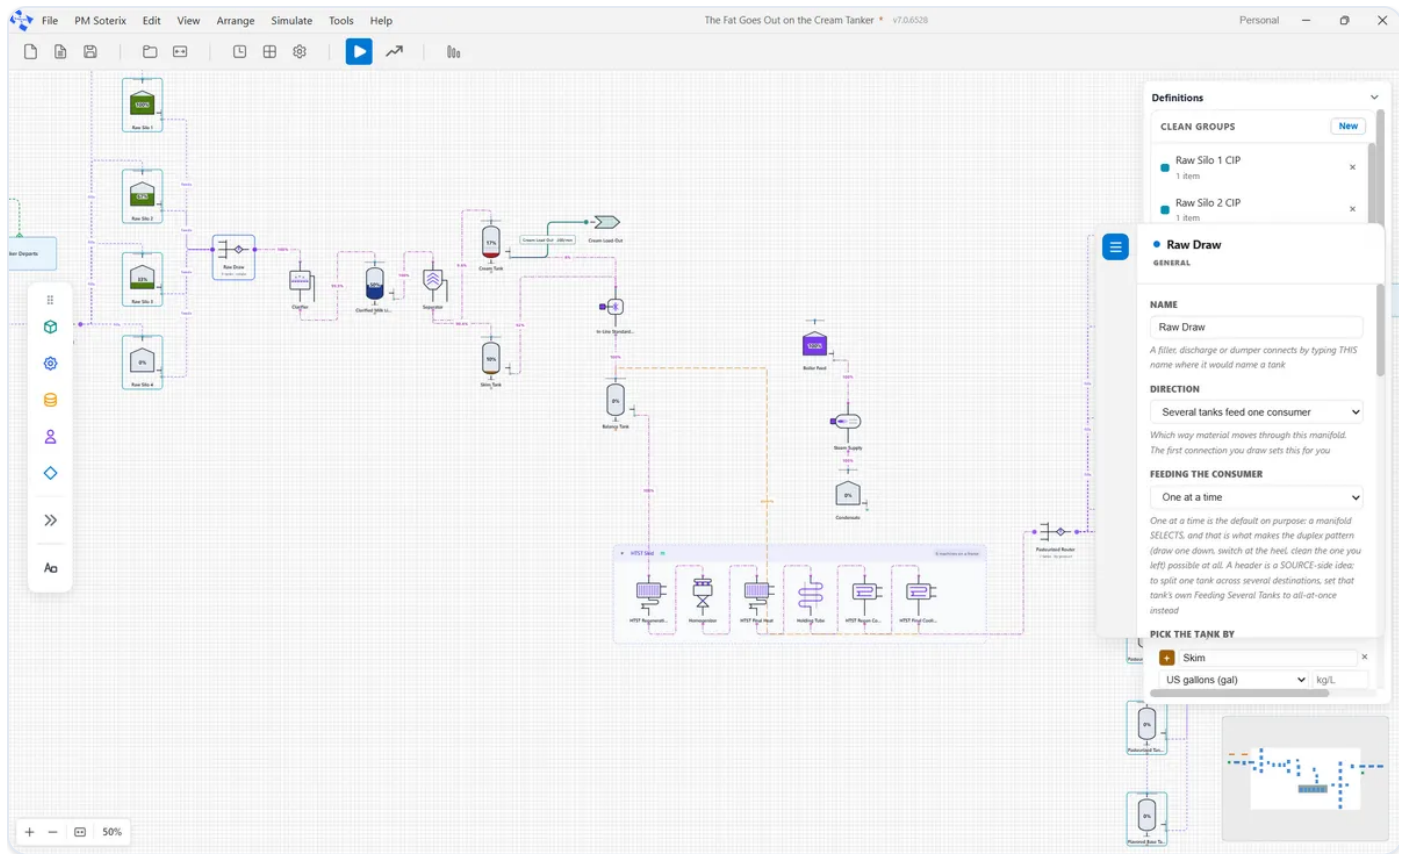

Figure 22. The Raw Draw manifold from this model: four tanks, rotate.
- Figure 22. The Raw Draw manifold from this model: four tanks, rotate.